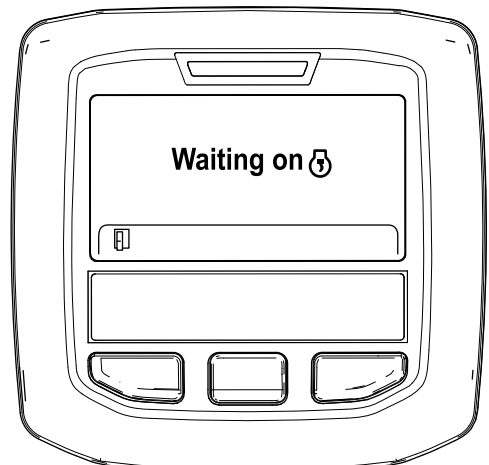

Figure 48
- B. The "Waiting on [engine icon]" message displays (Figure 48).